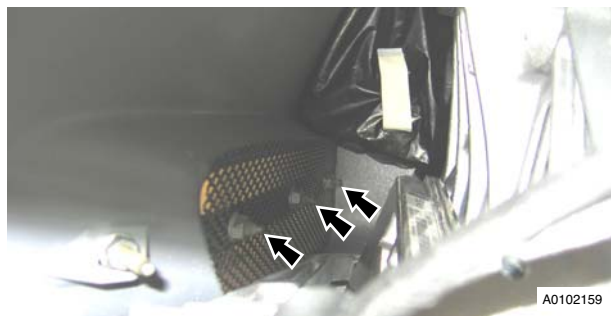

Figure 10
15. Remove vent mesh (nuts x3) (see Figure 10).